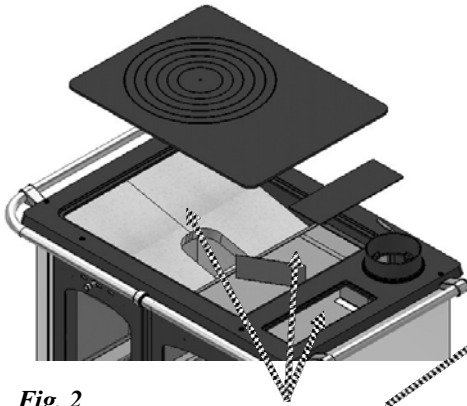

Fig. 2
1.17 RENGJØRING AV ØVRE RØYKRØR (Fig.2)